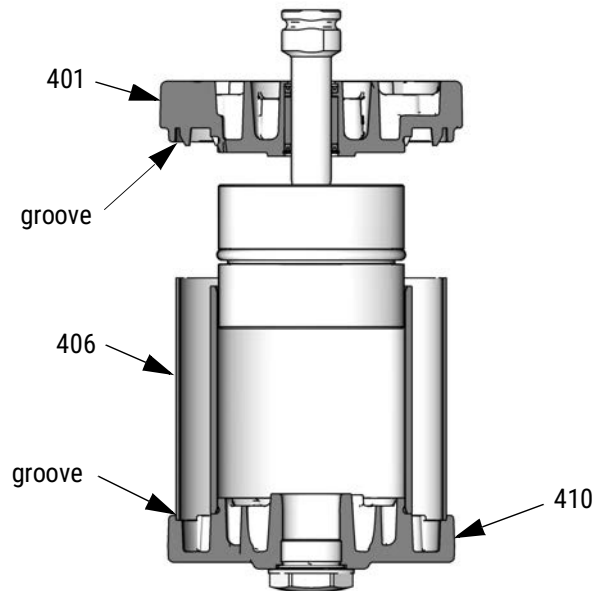

FIG. 11. Align Shield in Grooves on Covers
5. Lubricate and install the o-ring (402) on the bottom cover (401).
6. Carefully push the threaded end of the rod (418) up through the bottom cover (401).
7. Apply 16G561 adhesive to the threads of the rod (418). Screw the piston (419) onto the rod. Place the piston in a vise with soft jaws and torque to 35-40 ft-lb (47-54 N•m).
8. Lubricate and install the o-ring (404) on the piston (419).
9. See FIG. 11. Carefully place the bottom cover/piston assembly on the cylinder (405), sliding the piston (419) into the cylinder. The manifold surfaces of the top and